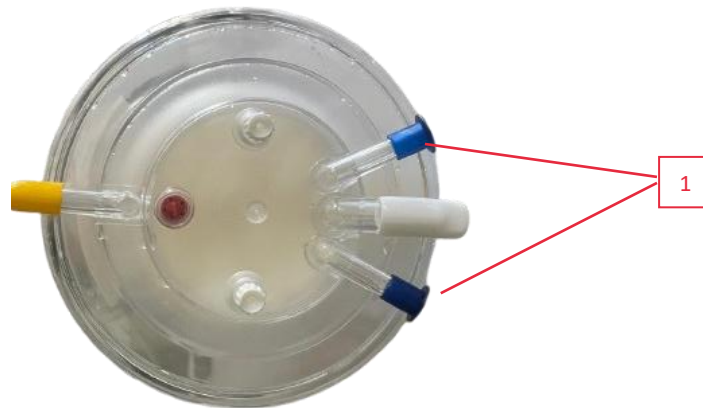

Figure 100: Top view of the Collection Reservoir
- Remove a blue plug attached to one of the two 1/4" blood inlet ports on the lid of the Blood Collection Reservoir (one of the two connectors in Figure 100, Legend 1 below).
- Connect the Aspiration Line (Figure 100, Legend 1) to the inlet on the Reservoir lid.